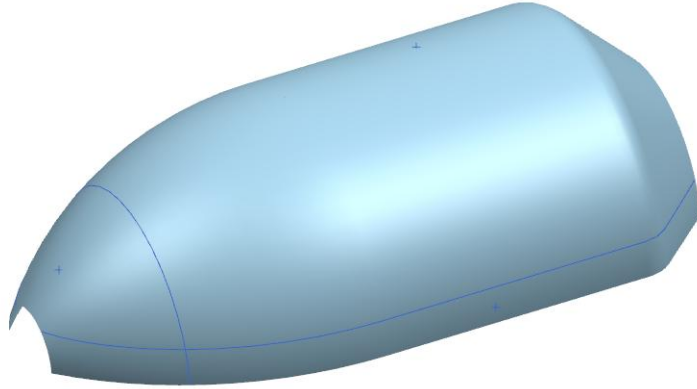

Figure 10–20
1. Open **MULTI\_TRANSITION\_MAN\_B.prt**. The model displays as shown in Figure 10–20.